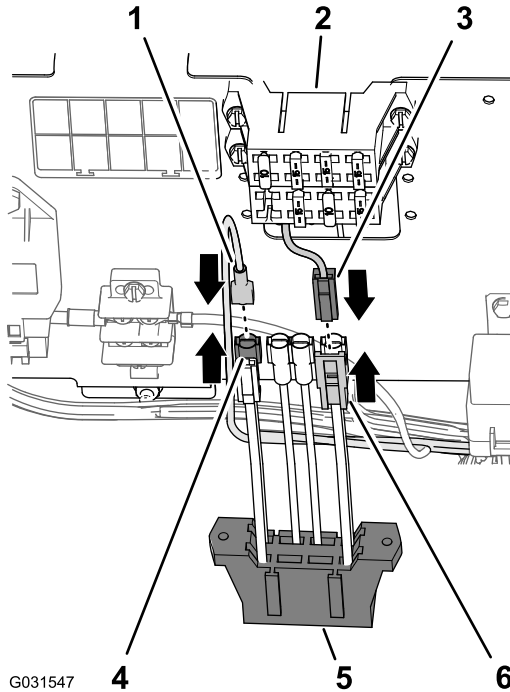

Figure 204
1. Connect the blade connector of the wire harness for the finishing kit to the socket connector of the auxiliary-fuse block (Figure 204).
2. Connect the 2-pin connector for the auxiliary-feed wires of the fuse block for the machine to the 2-socket connector for the feed wires of the auxiliary-fuse block (Figure 204).